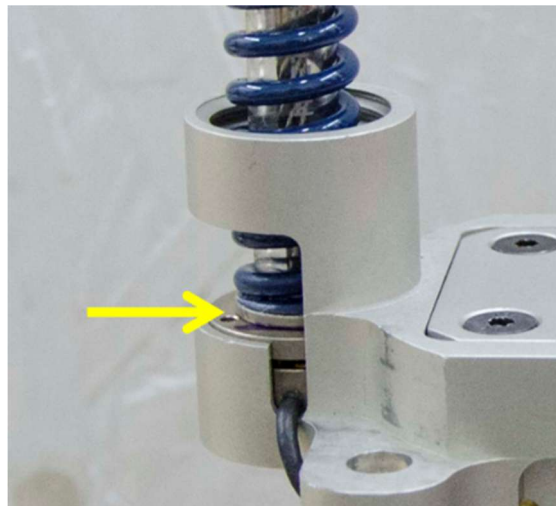
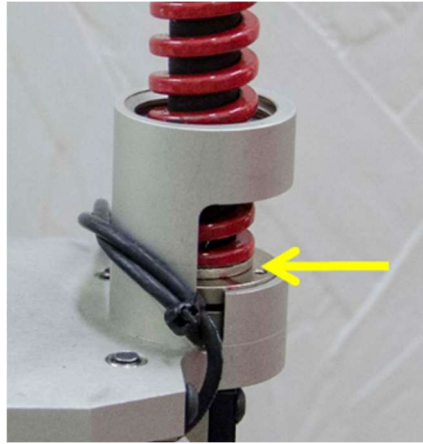

Figure 4-50. Front spring properly seated against spring load cell
Figure 4-51. Rear spring properly seated against spring load cell
- 4.3.21 Loosen the front and rear M5 X 0.8 adjustment nuts so there is no spring compression and confirm that the head and neck are still $0 \pm 0.2^\circ$ about the Y-axis (using an inclinometer measured on the top surface of the Head/Neck Mounting Platform (474-2302-A) and the ledge on the right side of the Molded Neck Assembly (474-2110)). If not, repeat step 4.3.19. Ensure that the springs are properly seated on the front and rear neck cables (Figure 4-50 and Figure 4-51).